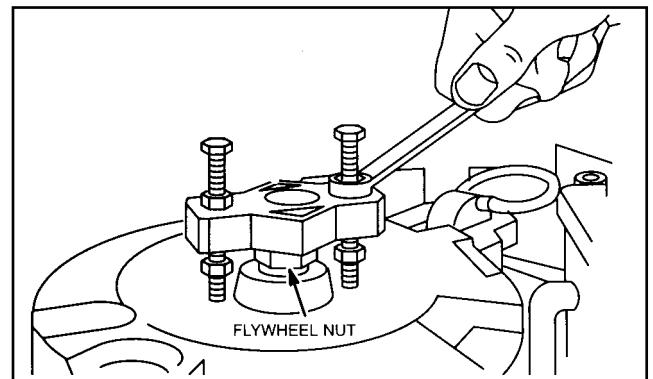

Fig. 5 - Removing Flywheel
6. Tighten puller screws equally until flywheel loosens, Fig. 5.